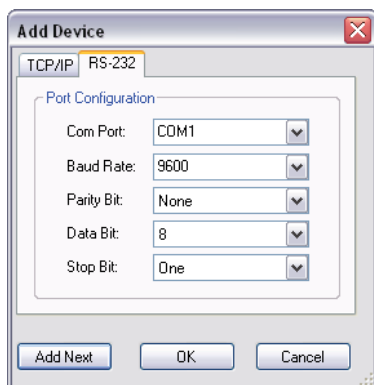
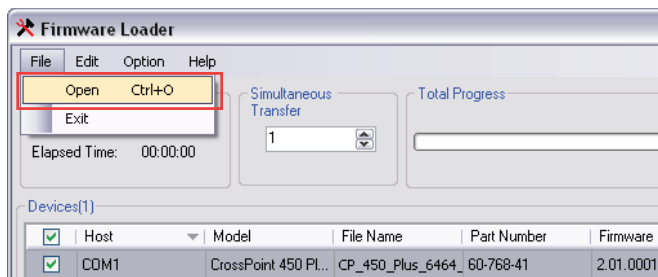

Figure 5-11 — Add Device window
Figure 5-12 — Extron Firmware Loader window
If you are connected via either serial port, either the Add Device window (figure 5-11) or the Extron Firmware Loader (figure 5-12) appears. See “Serial-port-connected firmware upload”, on the next page.
10. If the Firmware Loader (figure 5-12) appeared, proceed to step 14.
If you have not updated firmware for the matrix switcher before, and if the Add Device window (figure 5-11) appears, select the **RS-232** tab.
12. Click **OK**. The Firmware Loader window appears (figure 5-12).